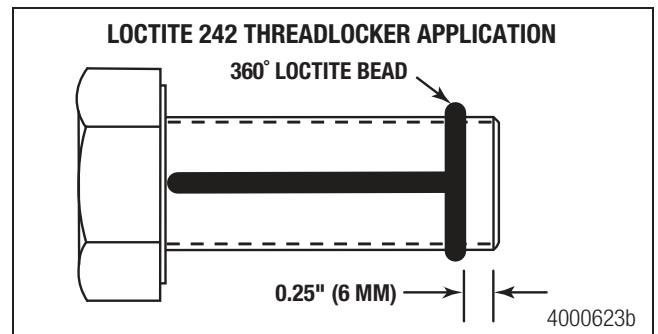

Figure 11.11
- Once the adjustable bearing carrier is installed back to its original location, apply a 0.125" (3 mm) bead of Loctite 242 threadlocker around the retaining flange bolt threads approximately 0.25" (6 mm) from the end. Apply a 0.125" (3 mm) bead of Loctite 242 threadlocker across the length of the threads. Figure 11.11.